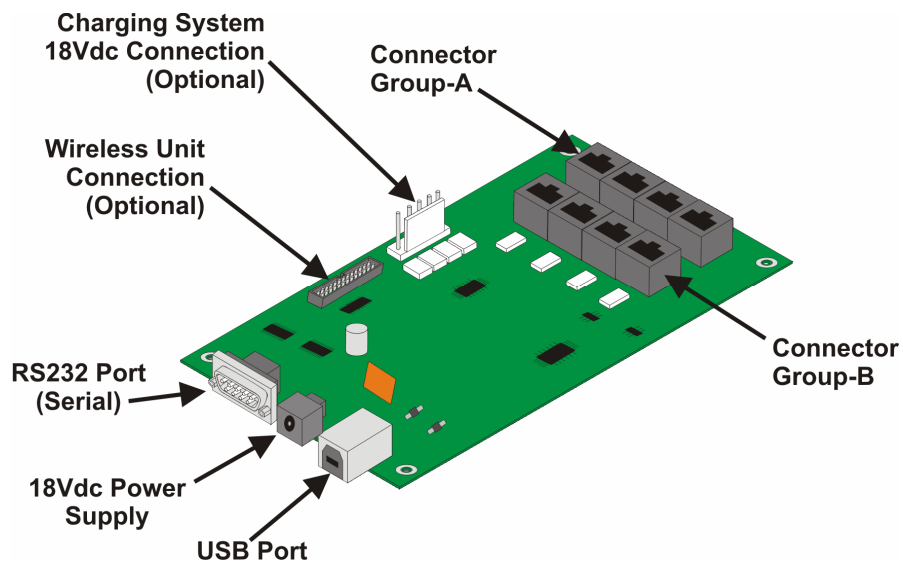

Figure 2-4. SML Interface Module – Printed Circuit Board Assembly (PCBA)
2.6.1 The SML Interface Module is a self-contained unit, containing a circuit card and various connections to interconnect the SML Wheel Units to SML Software, installed on a standard computer. Refer to Figure 2-4, as necessary.